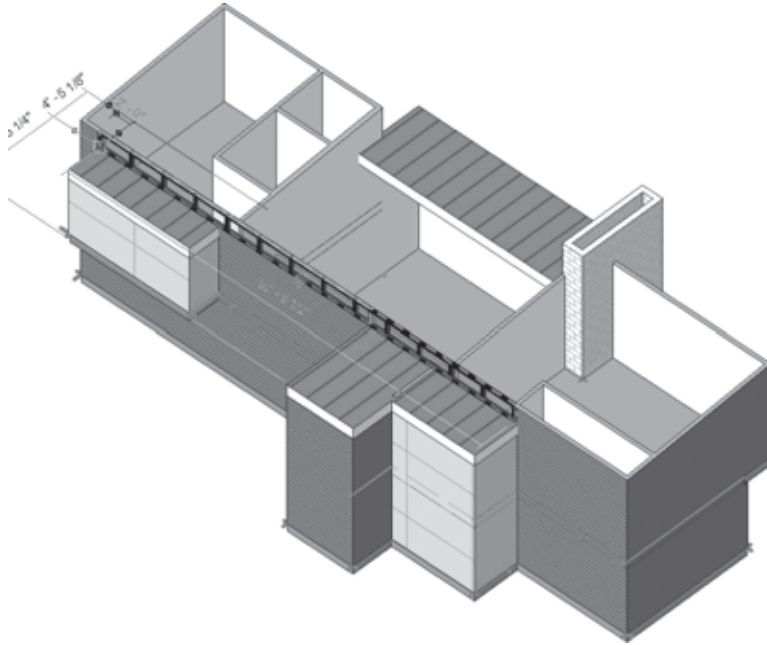

Figure 4.83
3. Draw the curtain wall, as shown in Figure 4.83. Use snapping to get the correct placement.